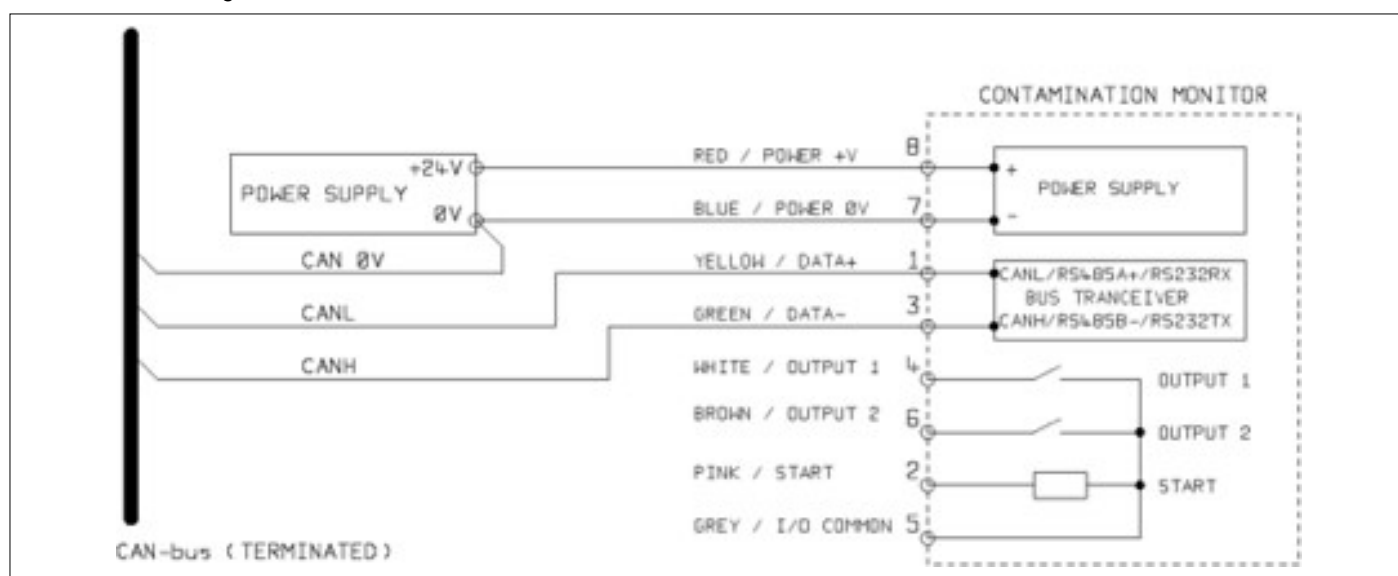

Figure 5.31
- Connect the ICM 2.0 to your CANbus network and provide a 24VDC power supply, as per figure 5.31.